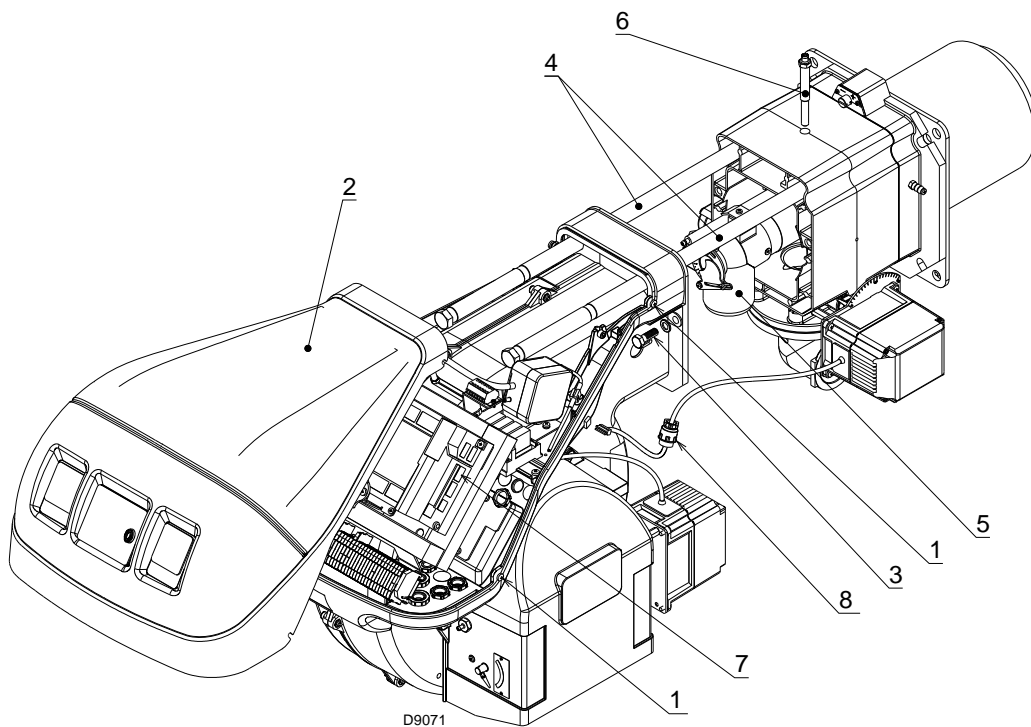

Fig. 38
Make sure that the gas outlet holes for the start-up, on the combustion head distributor, are free of dirt or rust deposits. If in doubt, disassemble the elbow (Fig. 38 at page 51).
- Loosen the 4 screws 1) (Fig. 38) and remove the hood 2).